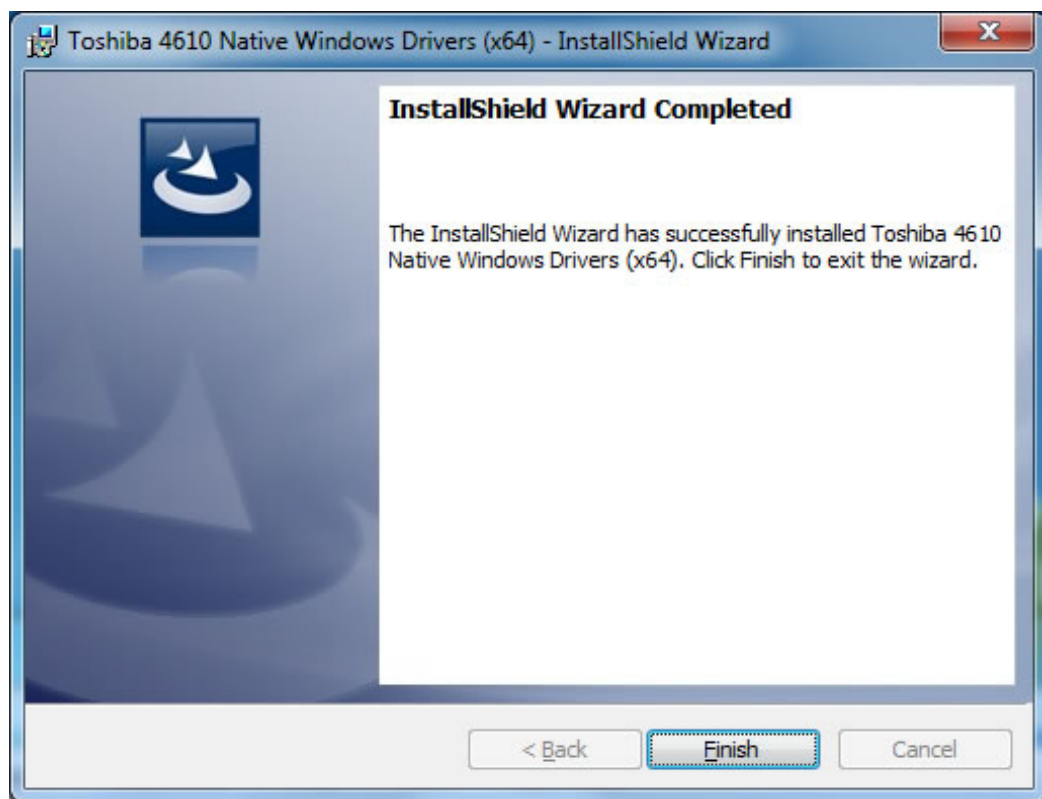

Figure 8. InstallShield Wizard Completed window
4. Upon Completion, the InstallShield Wizard Completed window opens. Click **Finish** to end the process. See Figure 8.